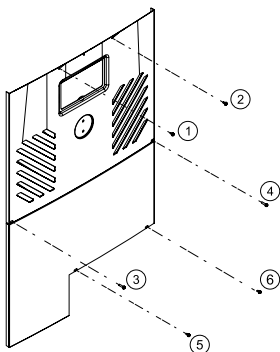

Figure 130. Sheet Metal Screws to Remove Control Panel
2. To access the heater's front control cover panel, use a 1/4" hex head screwdriver to unscrew the six (6) screws. See Figure 130.